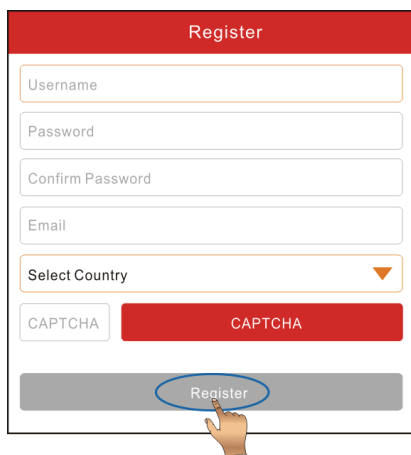

Fig. 4-3
1. If you are a new user, tap “New Registration”. See Fig. 4-3.
- A. Create App account: In Fig. 4-3, fill in the information in each field and then tap “Register”, a screen similar to the following will appear: